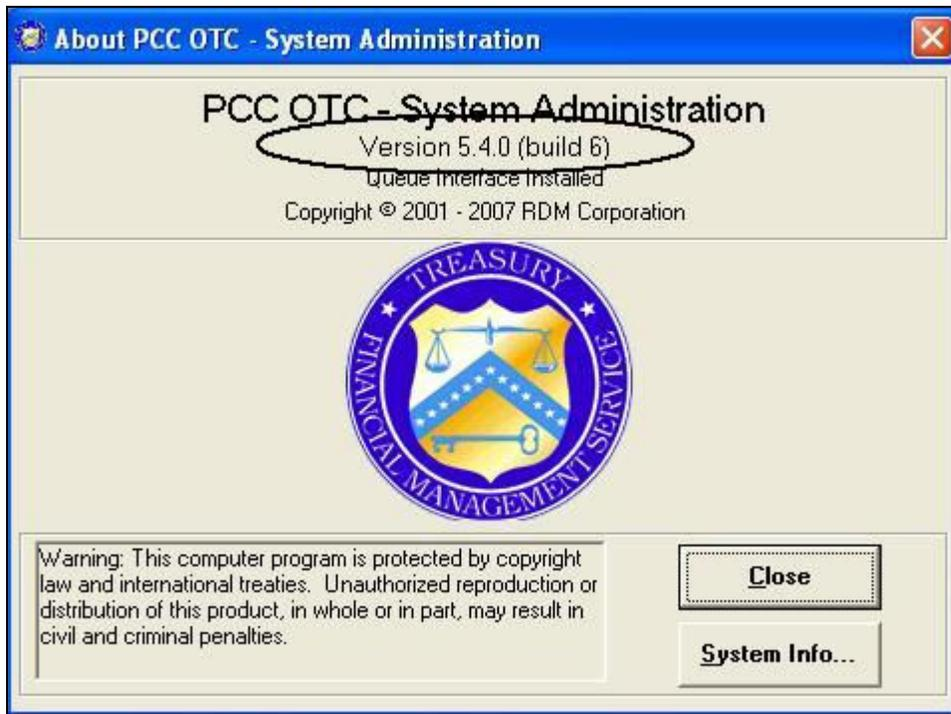

Figure 3.37
3. The screen displays the version number for the SAT (circled). This information may be requested from the Treasury OTC Support Center for troubleshooting purposes.(Figure 3.37).